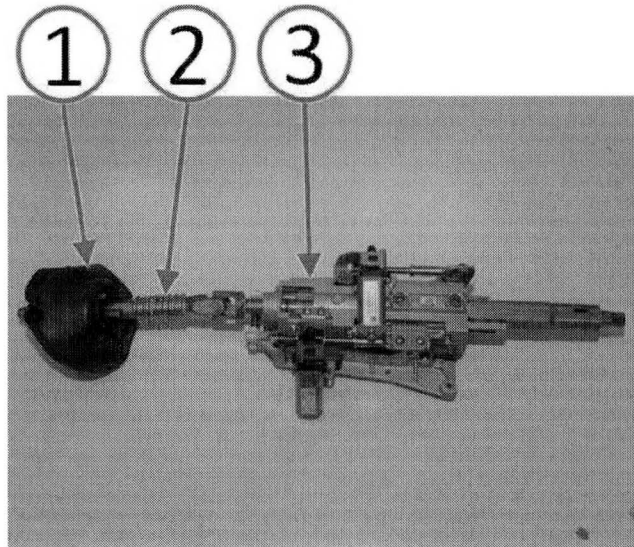

Fig. 1 Steering Column Assembly
1. Remove the steering column assembly (1, 2, 3) from the vehicle. Discard intermediate shaft pinch bolt. Refer to the detailed service procedures available in DealerCONNECT> TechCONNECT under: Service Info> 19 - Steering> Column> Removal (Fig. 1).